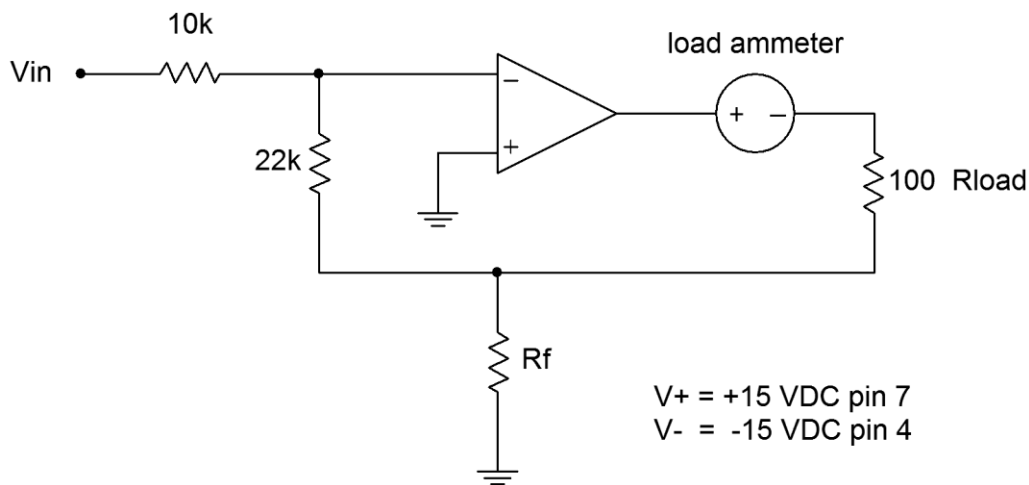

Figure 2
7. The gain of the current amplifier can be determined from R_i and R_f . Based on these values, calculate the expected A_i and I_{load} for the circuit of Figure 2, and record them in Table 3.
8. Assemble the circuit of Figure 2 using $22k\ \Omega$ for R_f .
12. Utilizing the circuit of Figure 2, suppose that all of the results found in Table 3 are approximately 10 times smaller than they should be. Consider and test at least two plausible causes for this scenario, and include the results in the technical report.